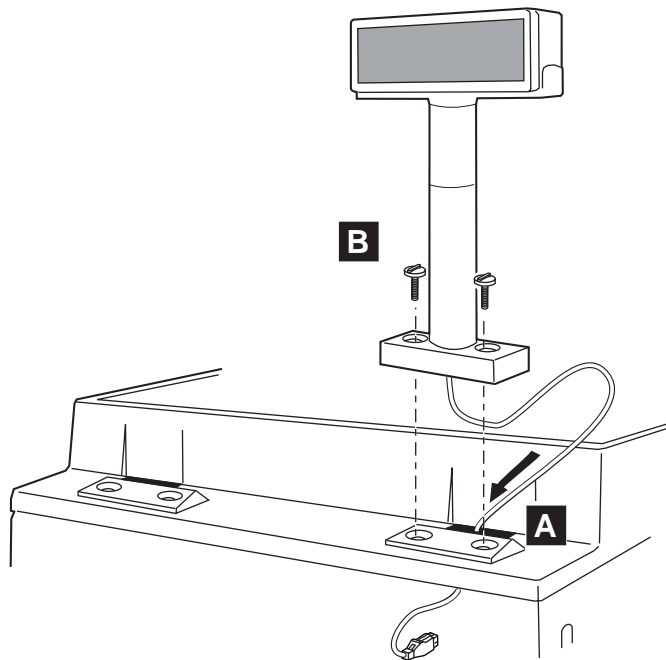

Figure 61. Routing the cable
4. Route the display cable through the rear of the POS terminal ( **A** in Figure 61) and screw the post to the POS terminal ( **B** ).